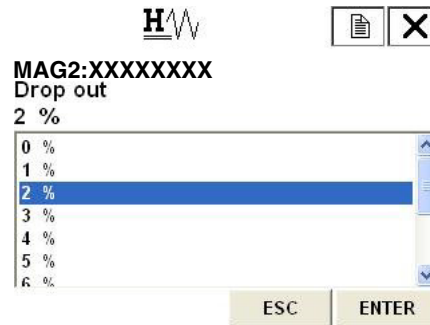

Figure 85.
Figure 85 is then displayed.
2. Once the display as shown in Figure 85 appears, move the arrow key up or down to select drop-out value. The value can be specified from 0% to 10%. After making a selection, press F4(ENTER). If F3 (ESC) is pressed here, the selection is canceled and the display returns to the Noise immunity menu.